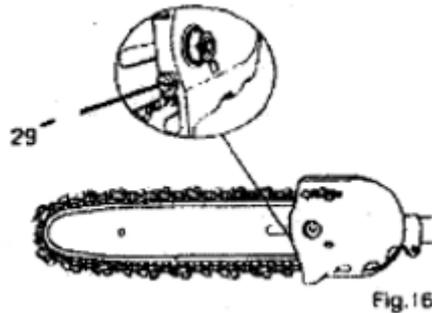

Fig.16
6. Remove all chain slack by turning the chain tensioner screw (29) clockwise, making sure the chain sits in the grooves of the bar during tensioning. See Figure 16.